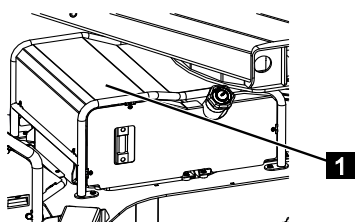

Fig. 246
1. Remove the cover (Fig.246/1).